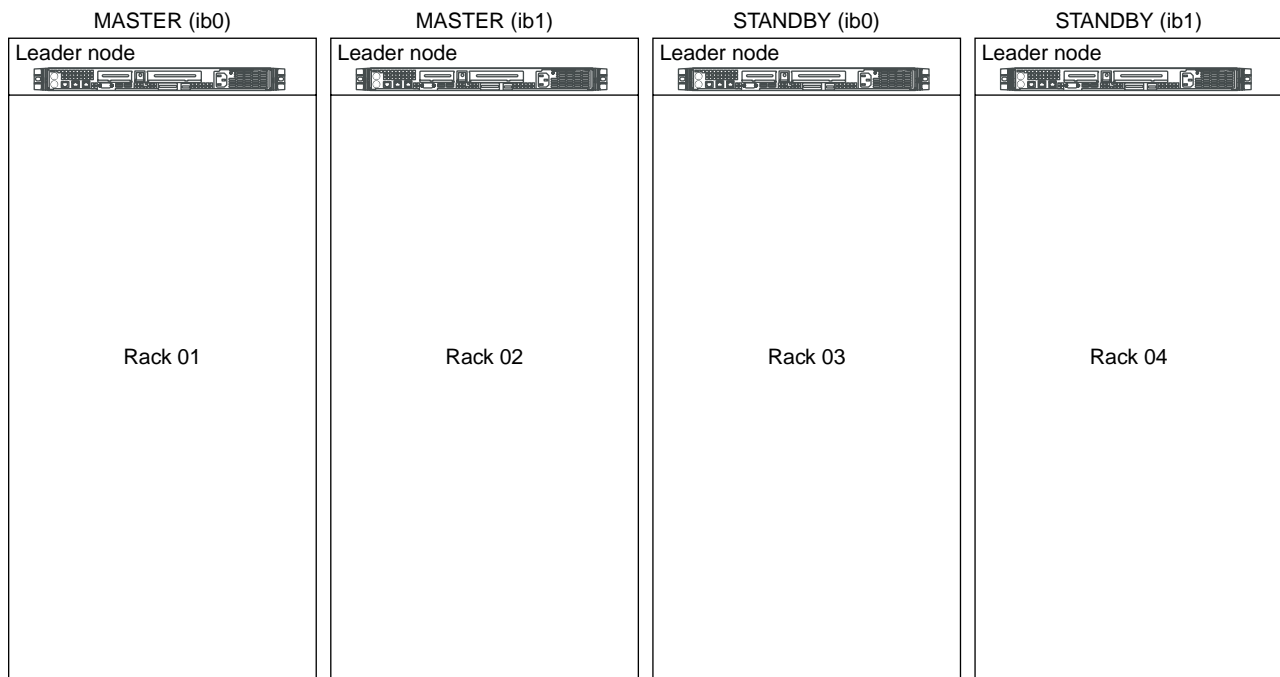

Figure 4-6 `opensm` Software Failover
Each subnet manager (SM) has a failover mechanism. If the master SM fails, the standby SM takes over operation of the fabric. This failover operation is performed automatically by the `opensm` software. Typically, `rack1` is the MASTER for the `ib0` fabric and `rack2` has the MASTER for the `ib1` fabric, as shown in Figure 4-6 on page 224.